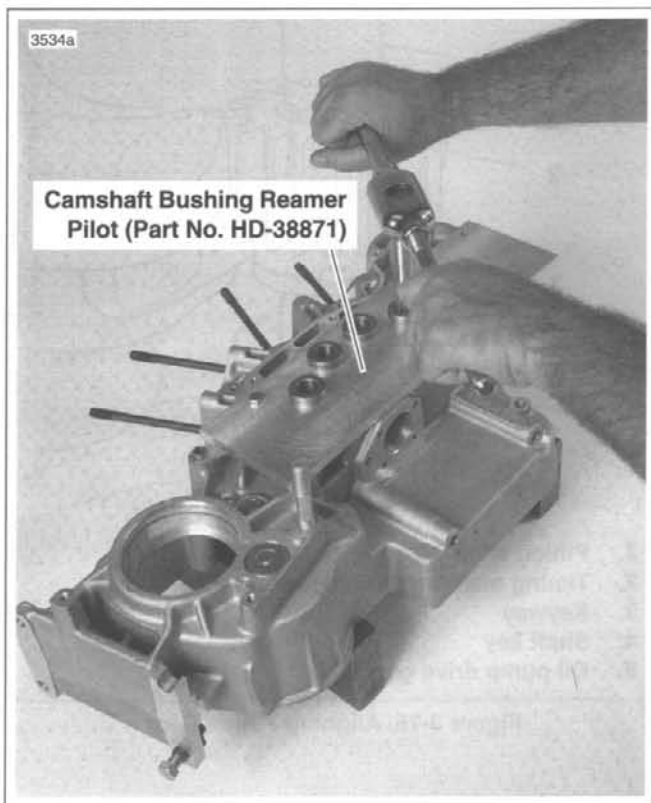

Figure 3-73. Reaming Cam Gear Bushing in Right Crankcase Half
2. See Figure 3-73. Position CAMSHAFT BUSHING REAMER PILOT (Part No. HD-38871) onto gearcase side of crankcase half; upper right and lower left indexing holes in pilot must be placed over dowels in crankcase half. Insert two bolts (supplied with pilot) through two remaining holes in pilot, and into threaded holes of crankcase half. Tighten bolts securely.